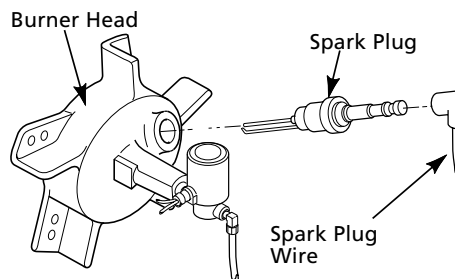

Figure 10 - Spark Plug Removal
2. Remove spark plug wire from spark plug (See Figure 10).
3. Remove spark plug from burner head using 13/16" open-end wrench (See Figure 10).